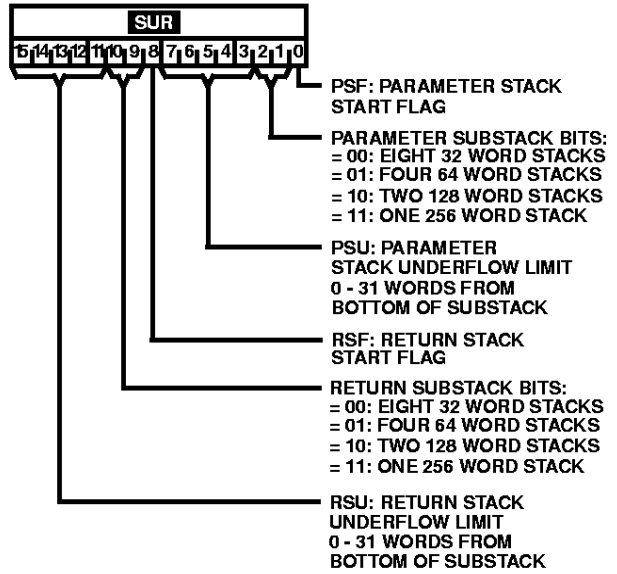

FIGURE 9. **SUR** BIT ASSIGNMENTS
**SUR**: The Stack Underflow Limit Register holds the underflow limit values for the Parameter Stack and the Return Stack. In addition, this register is utilized to define the use of substacks for both stacks. These values must be accessed together. See Figure 9.